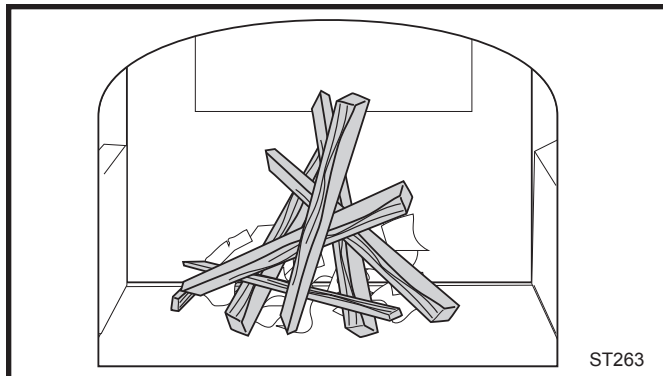

Fig. 31 Start the fire with newspaper and dry kindling.
2. Place several sheets of crumpled newspaper in the stove. Place six or eight pieces of dry kindling split to a finger-width size on the paper. On the kindling, lay two or three larger sticks of split dry wood approximately 25-51 mm (1-2") in diameter. (Fig. 31)